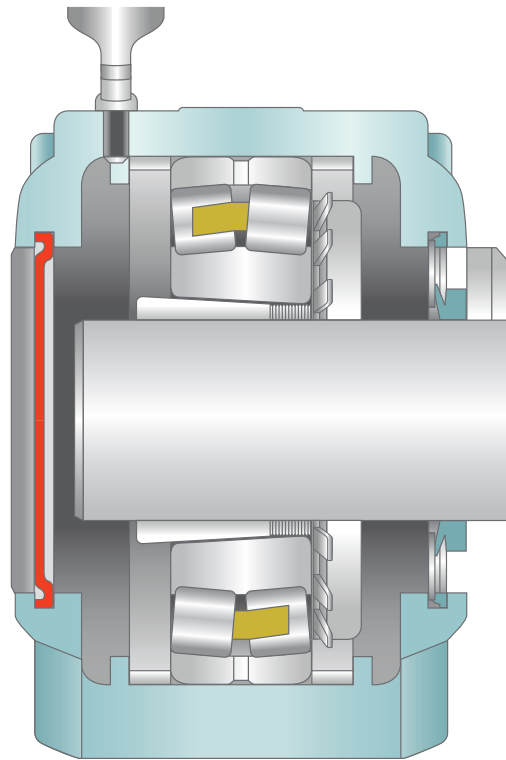

Figure 9:
- For the version with an end cover, the side of the plummer block where the end cover is installed has to be chosen under any circumstances (**figure 9**).